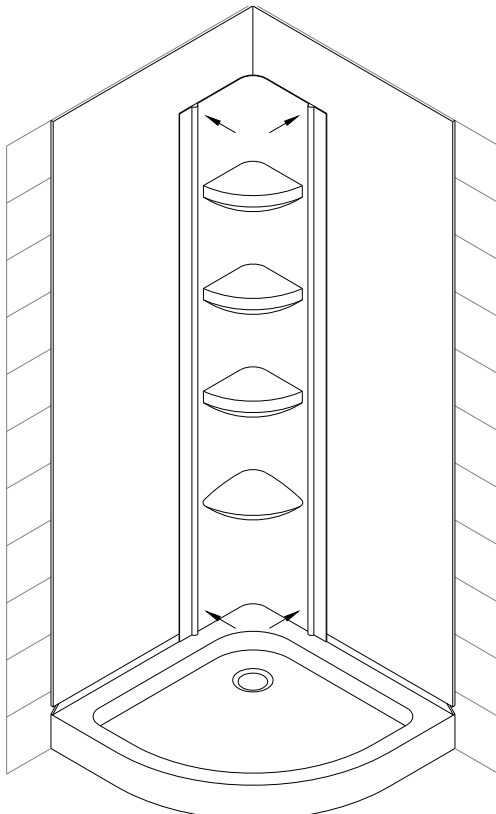

Fig 3
3. Place the panel in position and apply pressure to the complete surface top to bottom to ensure good overall contact. See Fig 3 for details.